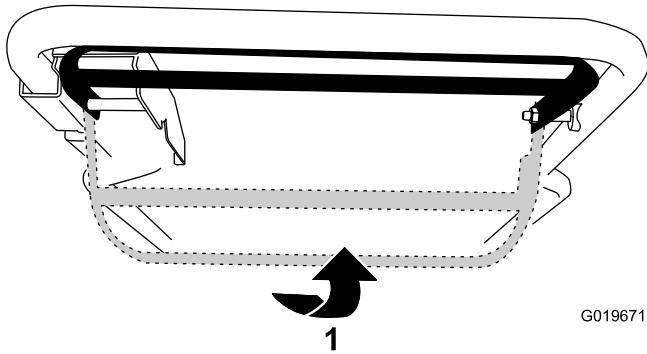

Figure 13
- **To operate the self-propel drive without engaging the blade:** Raise the blade-control bar to the handle (Figure 13).